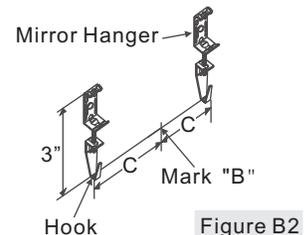

Figure B2
- E. (Refer Figure B2) To determine